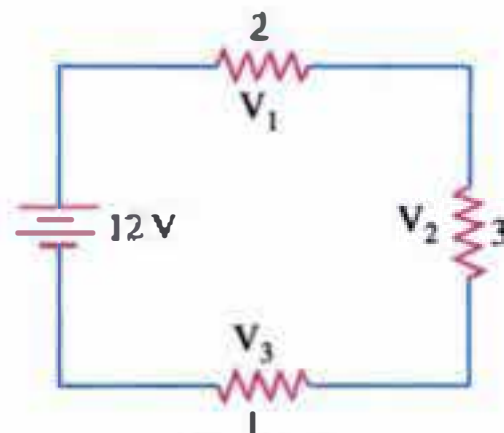

Fig. 2.36
2. Calculate voltage drops across the three series-connected resistors in Fig. 2.36. All values are in kilohm. [4 V; 6 V; 2 V]